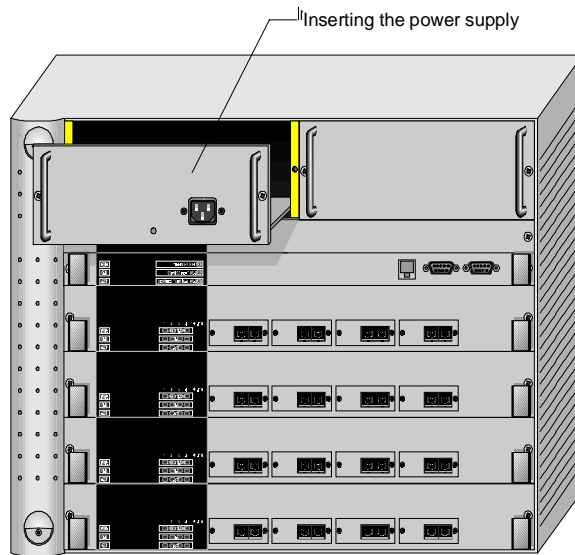

Figure 4-1 Hot-Swapping a Redundant Power Supply
- 2 Loosen the screws at the extreme right and left of the power supply, near the handles (refer to Figure 4-1).